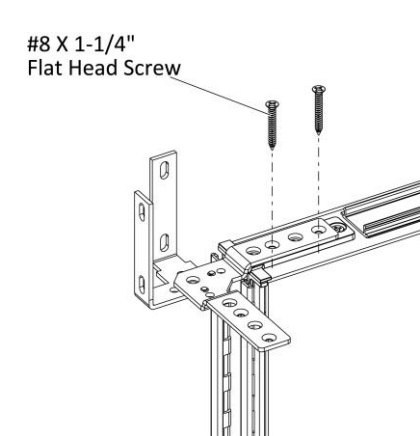

Figure 4
- Position the assembled connectors on the top edge of one of the short panels, (Figure 4).